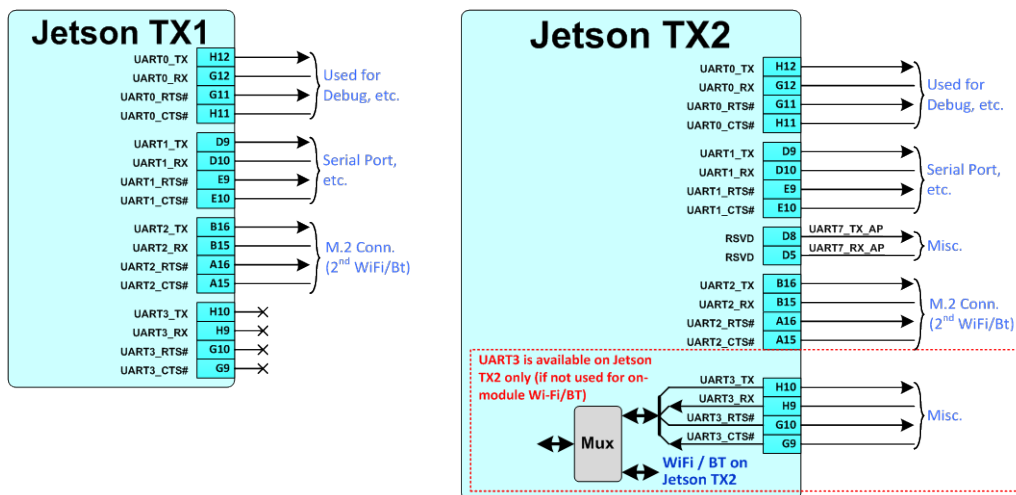

Figure 10. UART Support
- For Jetson TX2, JTAG_GP0 can be connected to the JTAG connector TRST_N pin and a pull-up should be provided as shown in Figure 10. JTAG GP1 is left unconnected (pull-down on module) for normal/debug modes, or pulled to 1.8V to support Boundary Scan test mode.